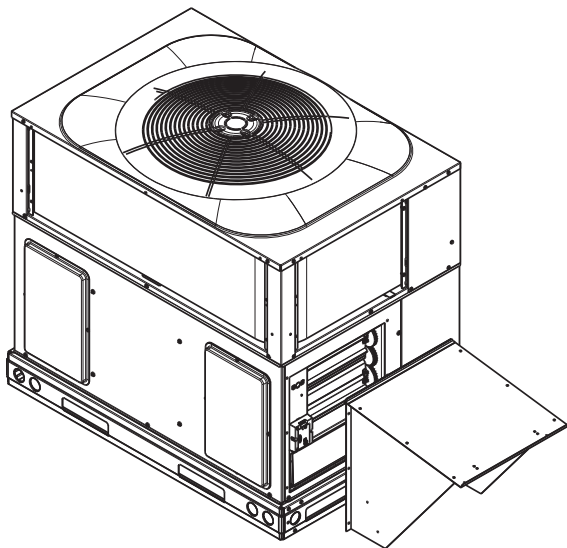

Fig. 6 - Economizer Hood Installation
9. Install assembled hood over the economizer opening in the replacement return chamber panel. See Fig. 6. Screw in place through pre-punched holes. Make sure all seams are air and watertight.